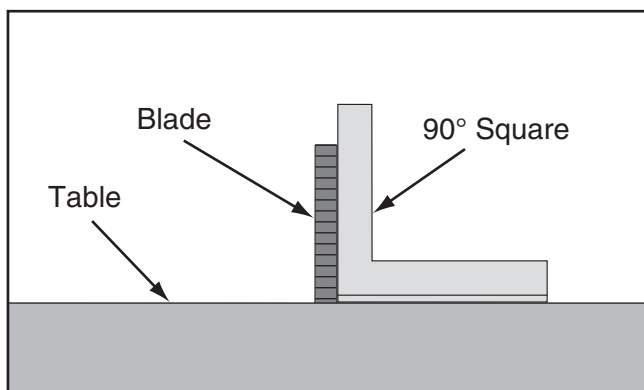

Figure 105. Checking blade at 90°.
3. Place a 90° square against table and blade so it contacts blade evenly from bottom to top, as shown in **Figure 105**. Make sure a blade tooth does not obstruct placement of square.